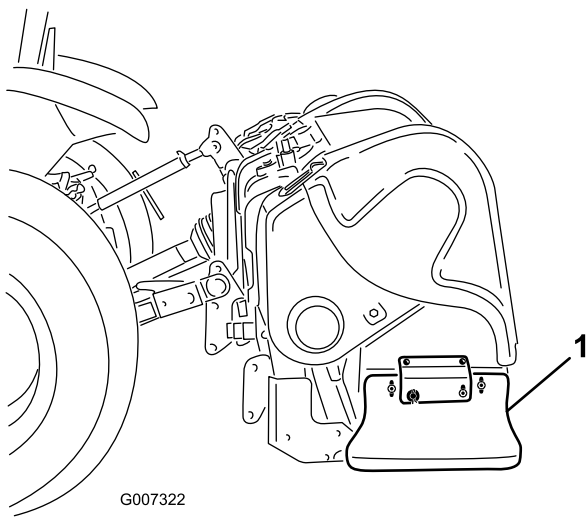

Figure 36
1. Loosen the bolts and nuts securing the side shield to frame (Figure 36).